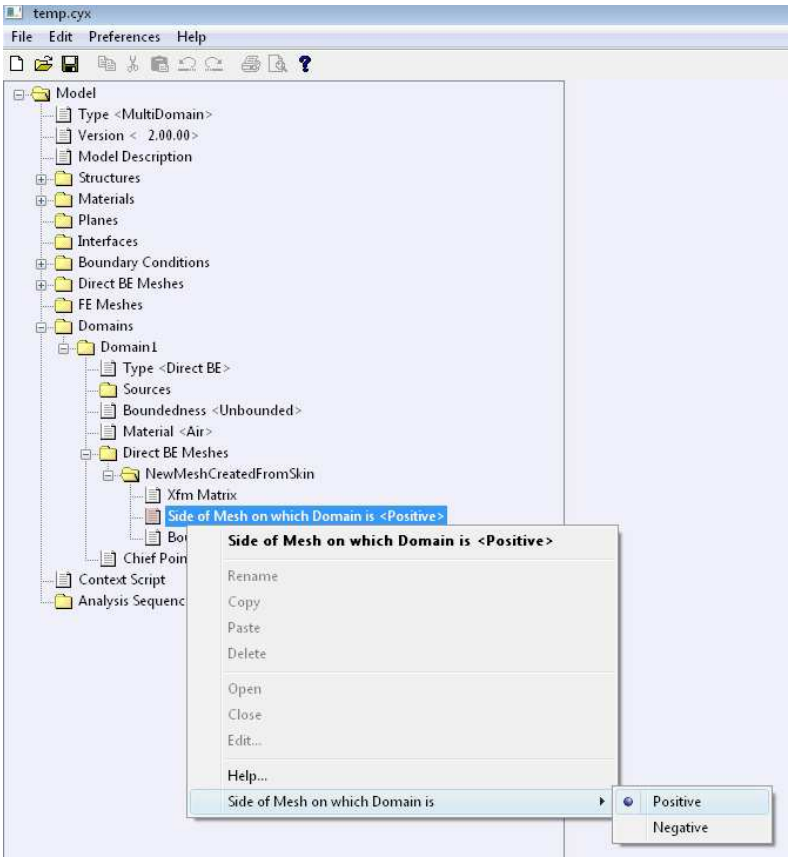

Figure 9.22: Set the side of the mesh on which the domain is.
- Select: **Model** → **Domains** → **Domain1** or *<Domain Name>* → **Direct BE Meshes** → **NewMeshesCreatedFromSkin** → **Side of Mesh on which Domain is**. Right-click on **Side of Mesh on which Domain is** and select: **Side of Mesh on which Domain is** → **Positive** as shown in Figure 9.22.